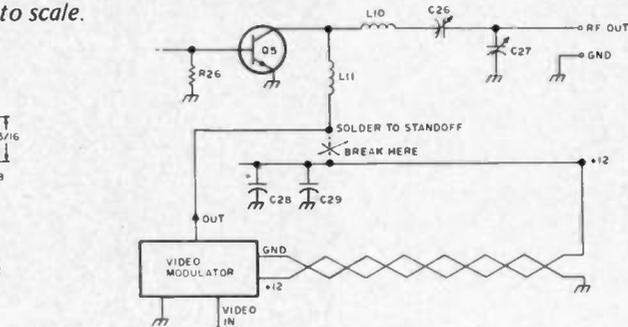

Fig. 6. Modification schematic.
3. Locate coil L11. Unsolder the end connected to the +12 V dc line. Mount a miniature insulated terminal in the 3/32" hole provided by Step 1, above. Solder loose end of L11 to terminal (Fig. 6).